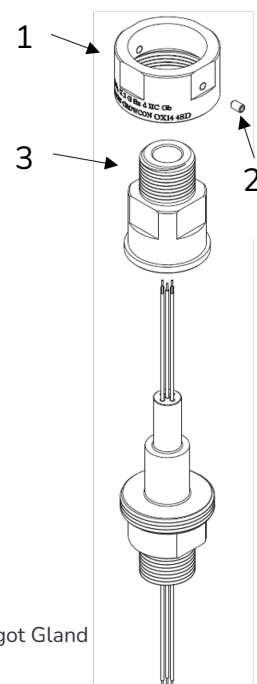

Figure 18: Spigot Gland
1. Carefully remove the outer section 1 of the spigot gland (see Figure 18).